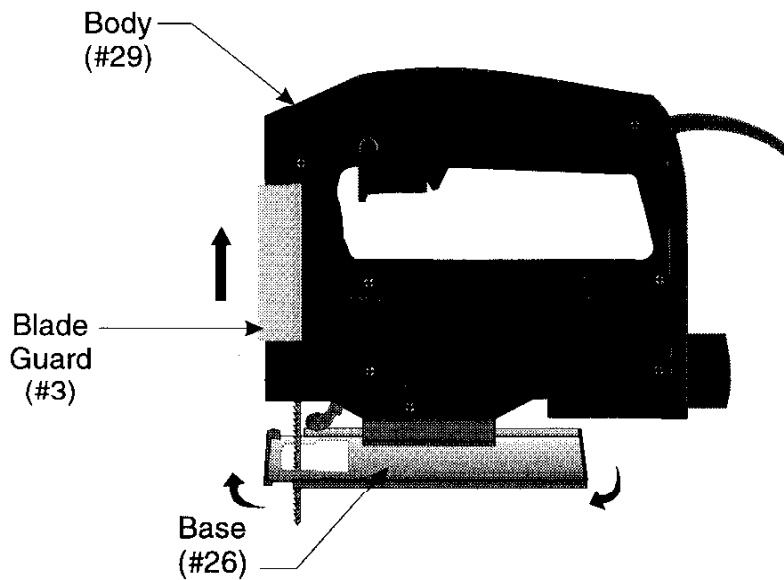

Figure 4 -- Adjusting the Base
- Step 3: Adjust the BASE to the desired angle as shown in Figure 4.